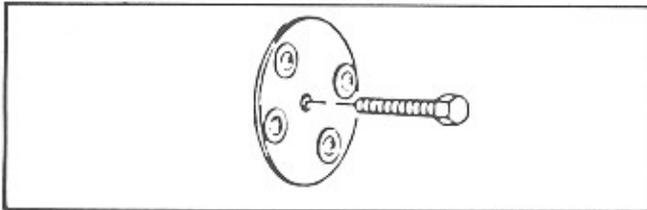

Figure 2-1. Shipping Bolt Removal
1. Remove the record changer mechanism shipping bolt from the back of the phonograph cabinet (See Figure 2-1.).